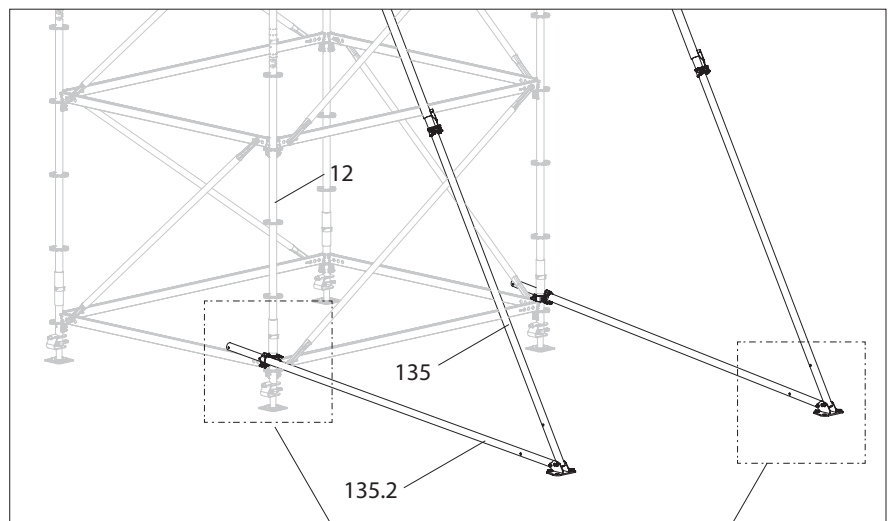

Fig. A15.06
- The bracing is now installed. (Fig. A15.06)